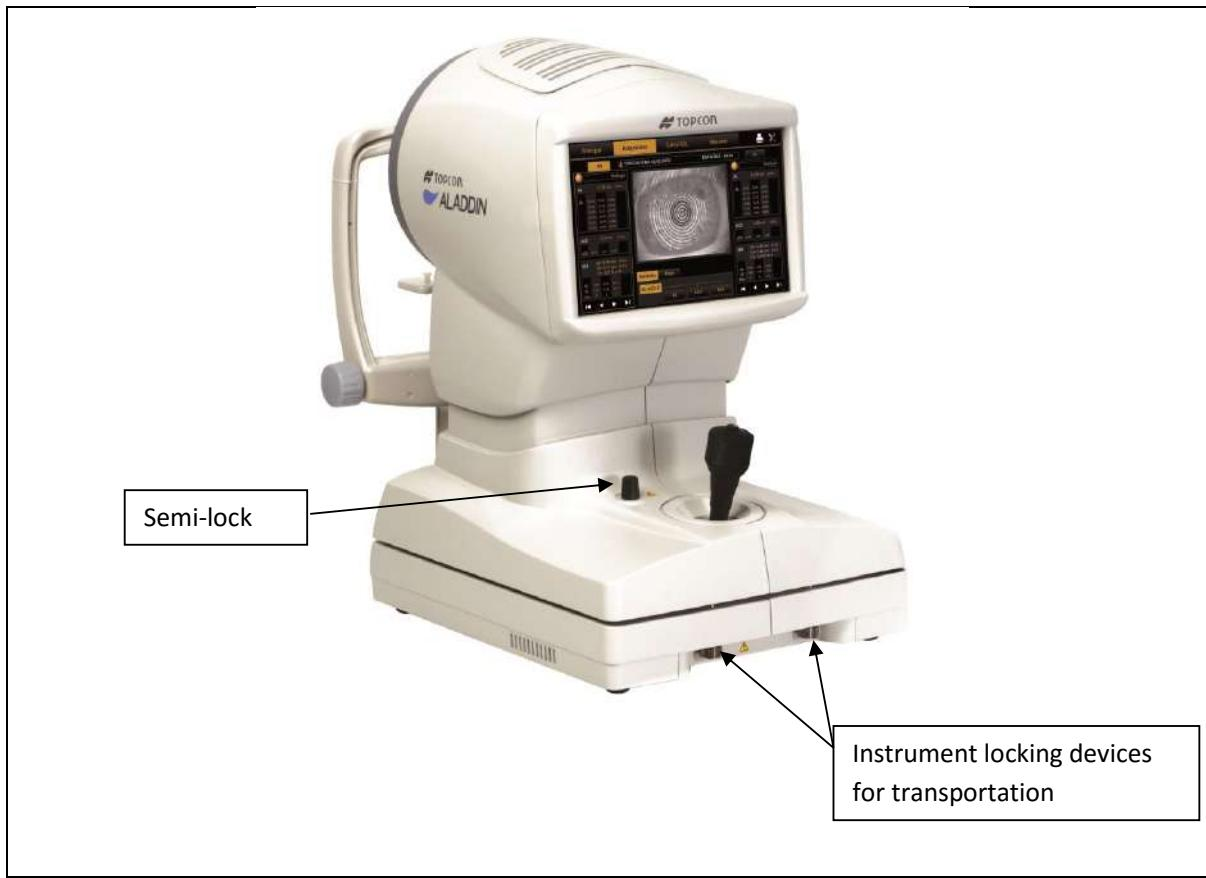

Figure 10
-  Completely unscrew the two transportation locks and the semi-lock (Figure 10) before use.
-  Lower the instrument to its minimum height using the joystick, then lock ALADDIN using the instrument semi-lock and the two "instrument locking devices" for transportation (Figure 10).
Completely unscrew the two transportation locks and the semi-lock (Figure 10).
**Set the instrument to the minimum height using the joystick. Lock the device using the instrument semi-lock and the two “instrument locking devices” for transportation (Figure 10).**